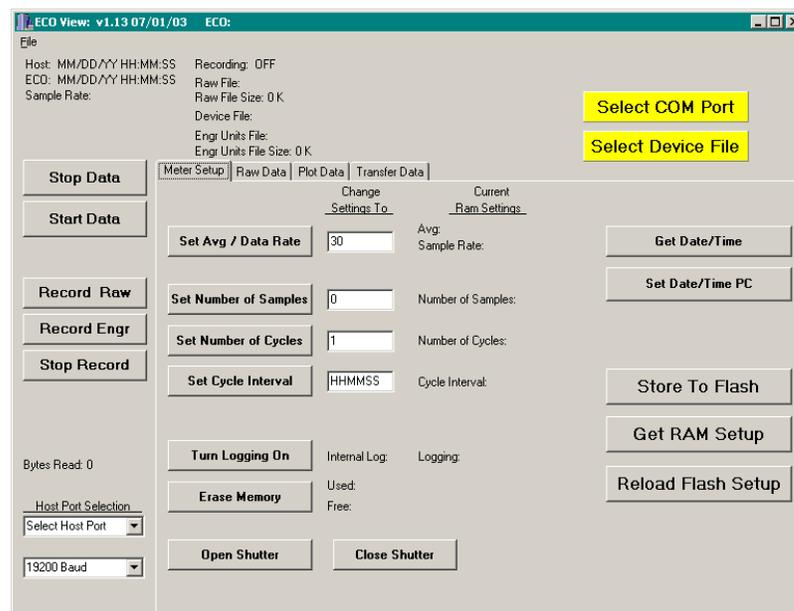

Figure 1. Meter Setup tab
4. Start the program by double-clicking ECOView.exe (or the shortcut). The screen below will appear (Figure 1).